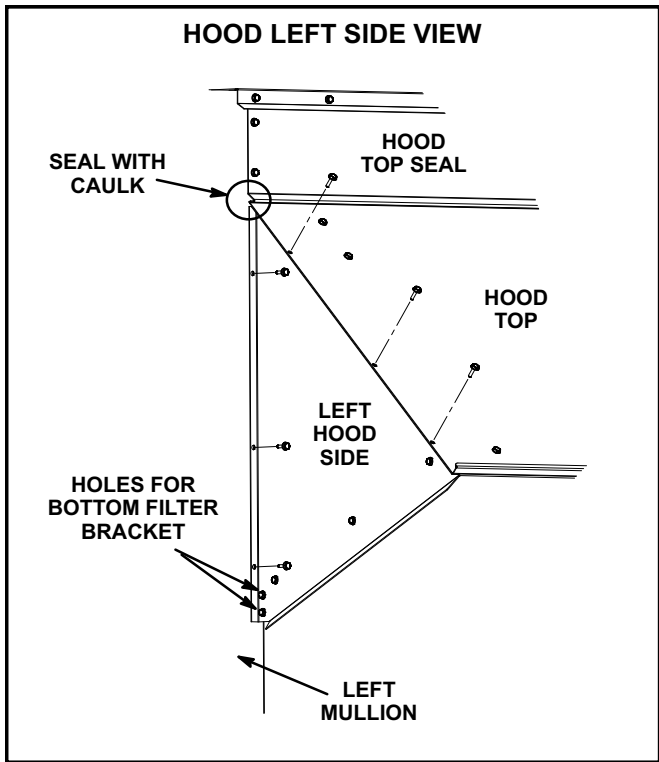

FIGURE 13
- 9- Secure left hood side to the hood top. See figure 13. Secure the left hood side to the unit using three screws removed in step 4. See figure 13.
- 20- Caulk (field-provided) both ends of the top seal and hood top as shown in figures 13 and 14.